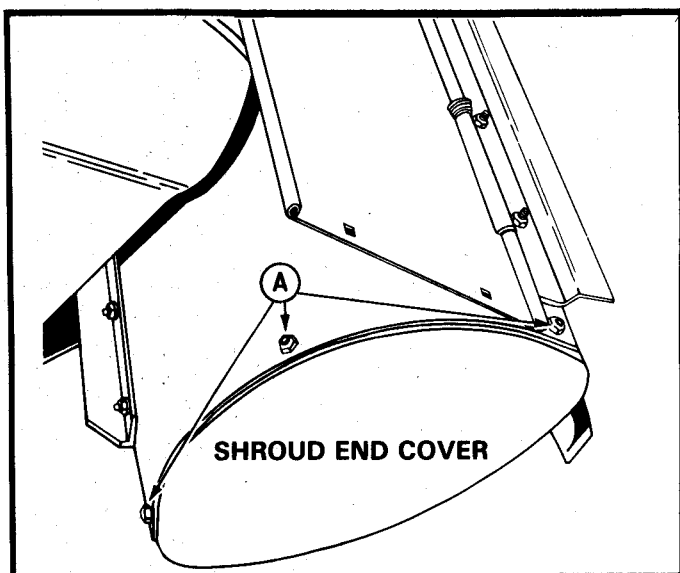

FIGURE 12
1. Remove bolts "A", Figure 12, and remove the shroud end cover.